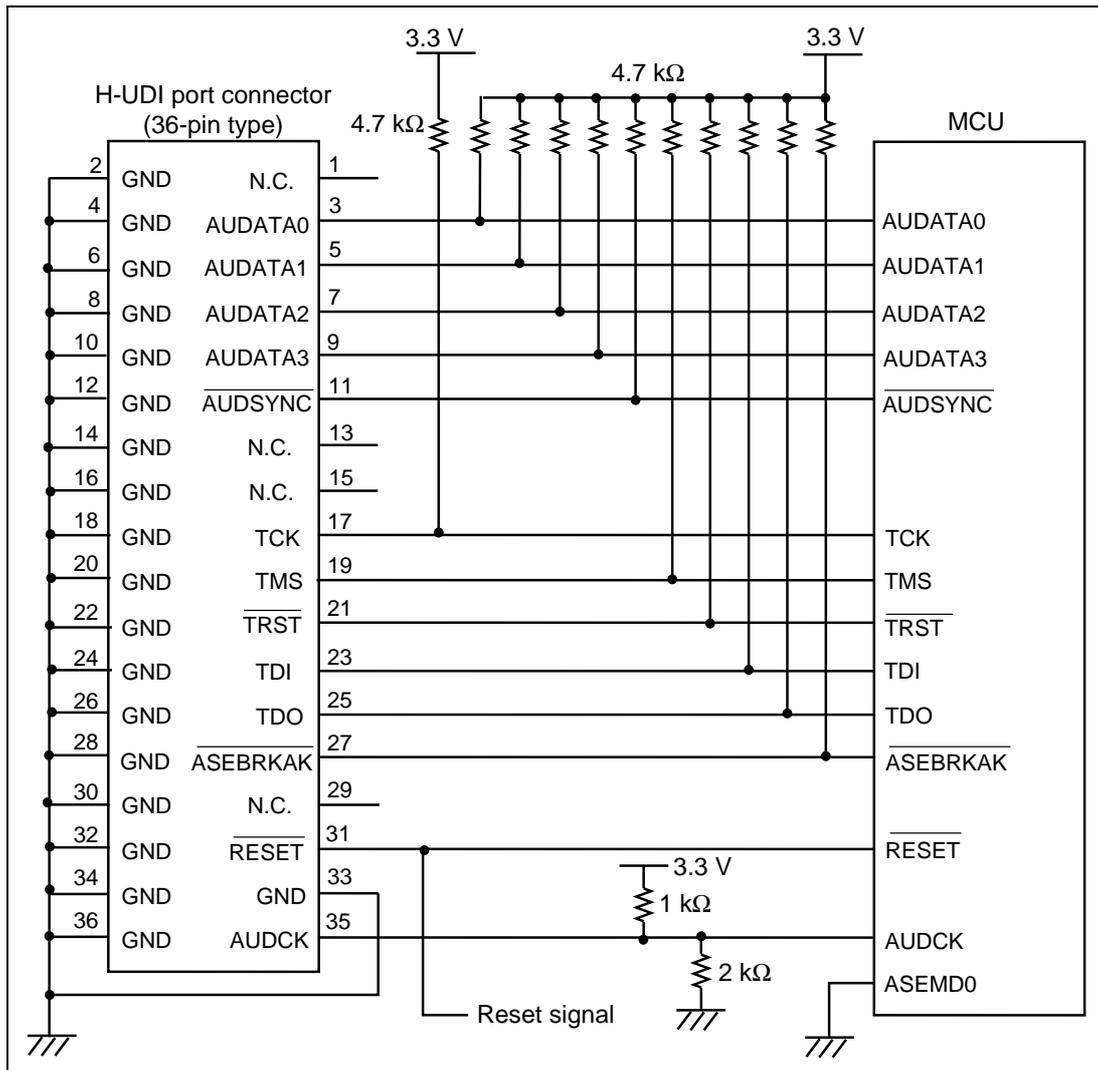

Figure 4.1 Recommended Circuit for Connection between the H-UDI Port Connector and the MCU when Using the Emulator (36-Pin Type)
Figure 4.1 shows a recommended circuit between the H-UDI port connector (36 pins) and the MCU.
- (1) When the emulator is used: /ASEMD0 = low (ASE mode)
- (2) When the emulator is not used: /ASEMD0 = high (normal mode)
6. The resistance values shown in figure 4.1 are recommended.